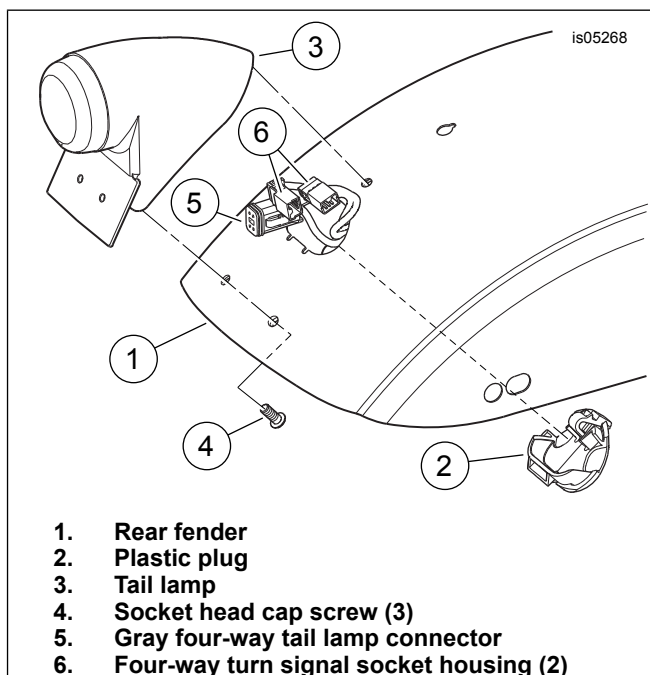

Figure 4. Rear Lighting Connections
1. See Figure 4. Remove the plastic plug (2) from the tail lamp access hole underneath the rear fender (1).
2. Carefully remove the turn signal wires and connectors from the inside of the tail lamp housing (3). Remove the turn signal wires from the clips underneath the fender. Separate the four-way turn signal socket housings (6) from the rear lighting harness pin housings.